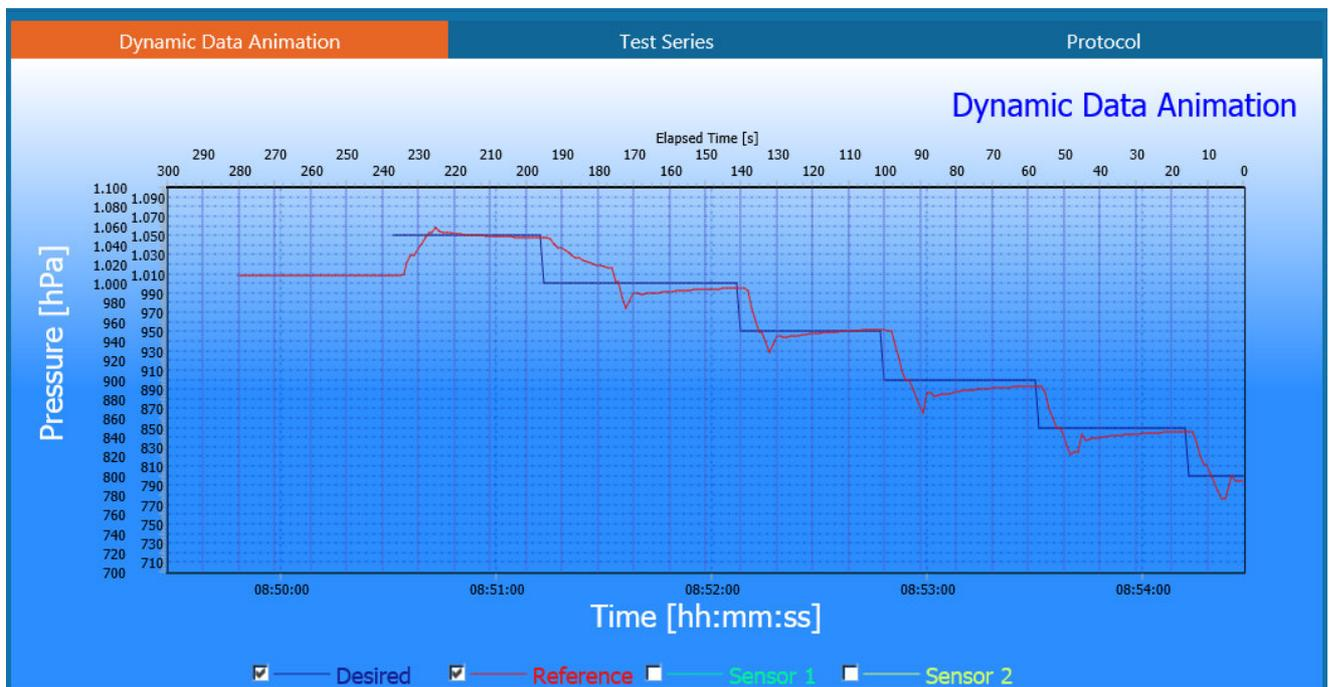

Figure 12
E.g.: In figure 12 only the check marked graphs of “Desired” and “Reference” are shown.